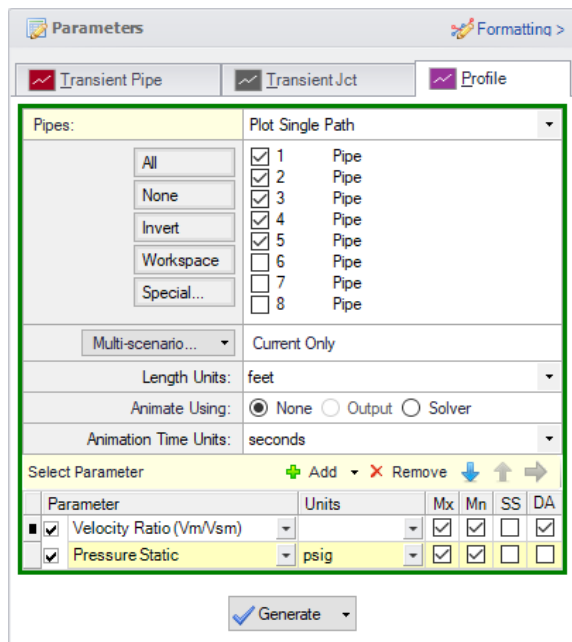

Figure 6.8 Data selection to view the maximum and minimum values of the velocity ratio and static pressure along the flow path to Deposit #1
3. Select Pipes P1 through P5 (Figure 6.8). These represent the flow path to Deposit #1.